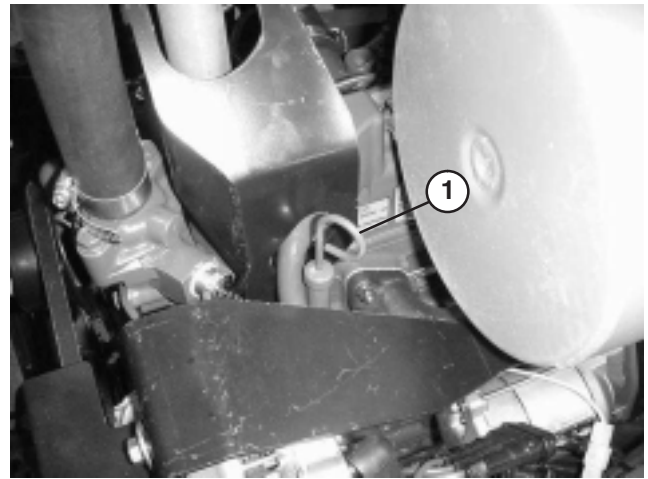

Figure 20
2. Remove dipstick (Fig. 20), wipe clean and reinstall dipstick. Remove dipstick and check oil level. Oil level should be up to FULL mark on dipstick